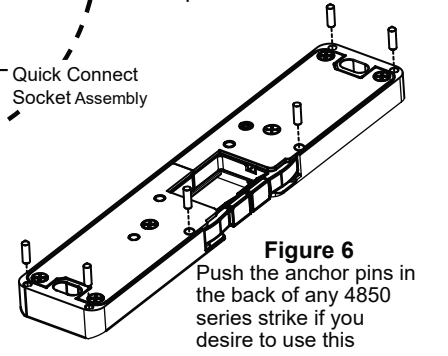

Figure 6
12. If you intend to use the anchor pins system, insert them into the 6 holes on the back side of the 4850. See Figure 6. If you also intend to use the 1/8" thick spacer plate, you can now slip the plate over the pins.